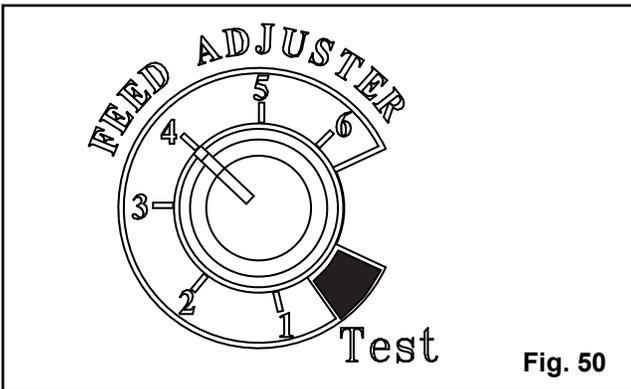

Fig. 50
5. Turn **Feed Adjuster** to #4. If this is your first fire, or you are trying different pellets, set the feed adjuster to #4, Fig. 50. This is a conservative number and will probably need to be increased if maximum BTU output is desired. After you know a feed rate setting that works well for your application, use that setting. Remember, if your feed rate is too high you may waste fuel due to overshooting the Wall Control setting.